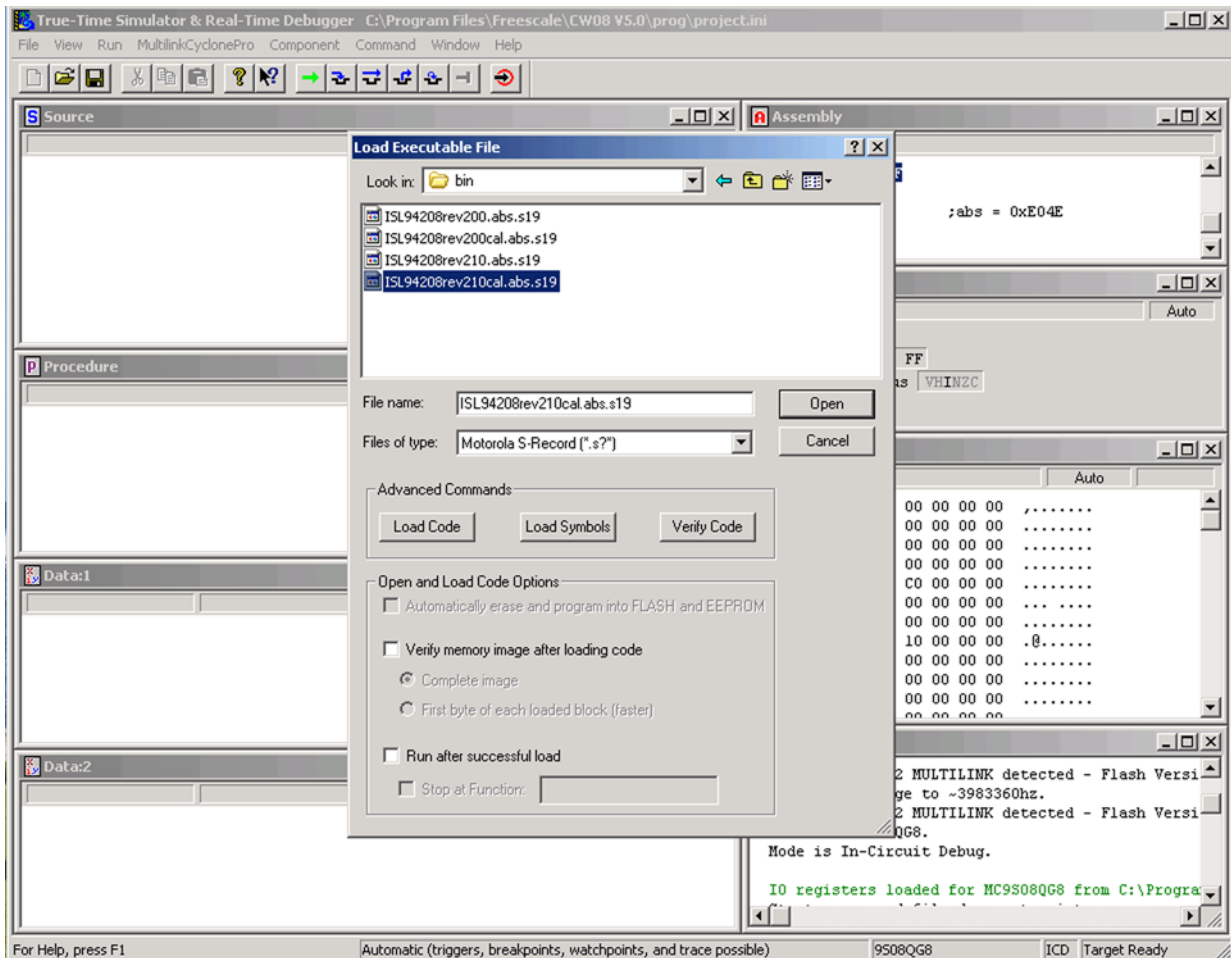

FIGURE 13. CODE WARRIOR SIMULATOR LOAD APPLICATION
5. From the File menu, select *Load Application....* The *Load Executable File* dialog box appears (see Figure 13.)